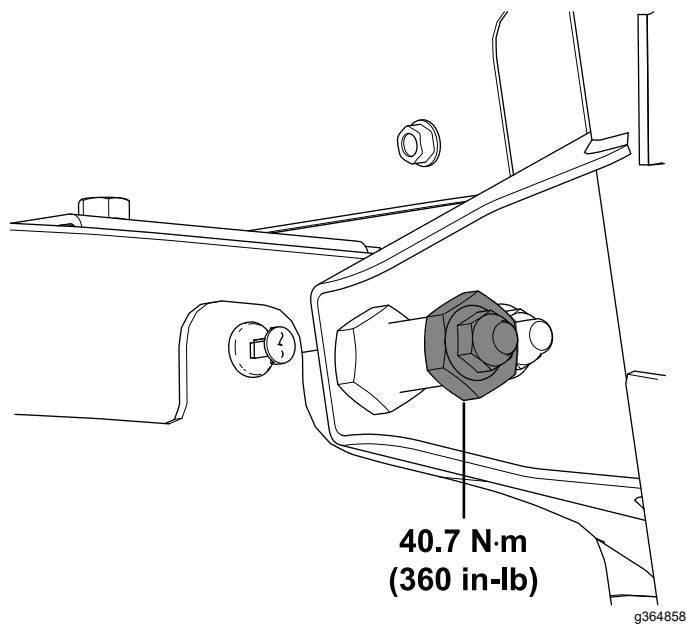

Figure 71
31. Torque the locknut (3/8 inch) to 40.7 N·m (360 in-lb) as shown in Figure 71.